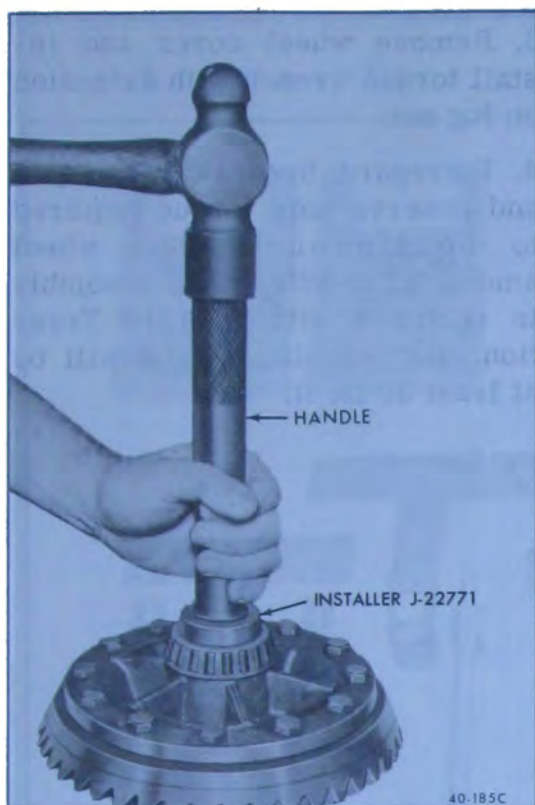

Figure 40-185—Installing Differential Side Bearings
2. If differential side bearings were removed, reinstall bearings using Installer J-22771 with Driver Handle J-8092. See Figure 40-185.